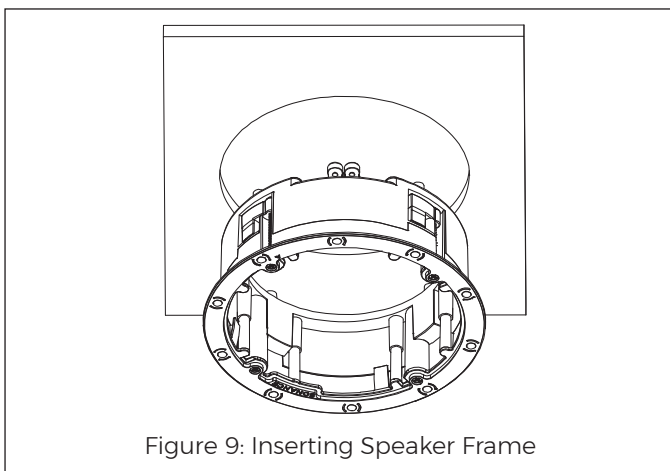

Figure 9: Inserting Speaker Frame
- Install the wired VX speaker frame into the cutout in the installation surface. Make sure all Roto-Lock toggle feet are retracted so that they are tucked within the mounting hole's borders and then insert the speaker frame into the hole (see Figure 9).